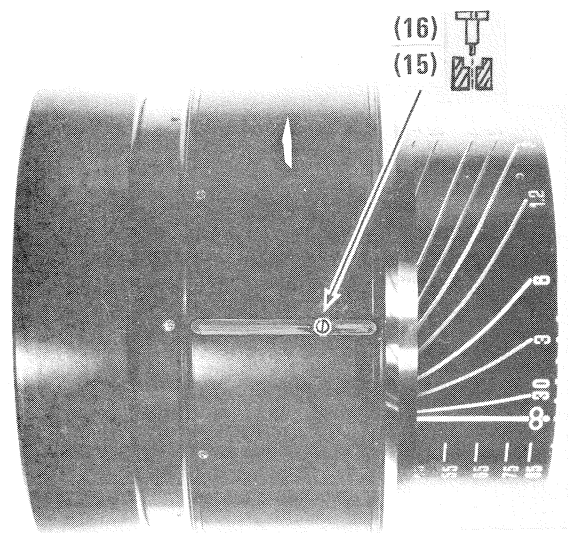

FIG. 5-11
- c) Install a roller (15) in the slot over the roller shaft mounting hole; making sure that the counterbored end is outward. Place thread sealant on the threads of roller shaft (16) and install it through the roller and into its mounting hole. Do the same on the other side of the lens. Fig. 5-11.